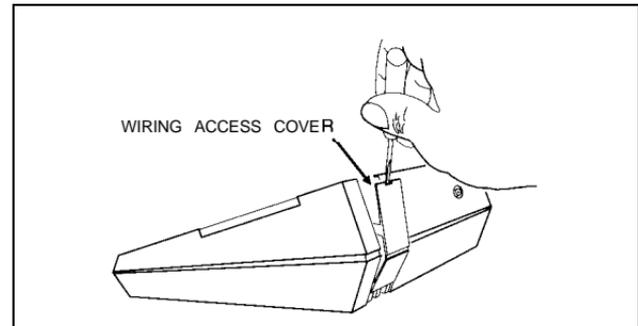

Figure 9. Removing Wiring Access Cover
STEP 1: Remove the wiring access cover from the rear of the Console by carefully prying it open from the top with a small screwdriver (see Figure 9).